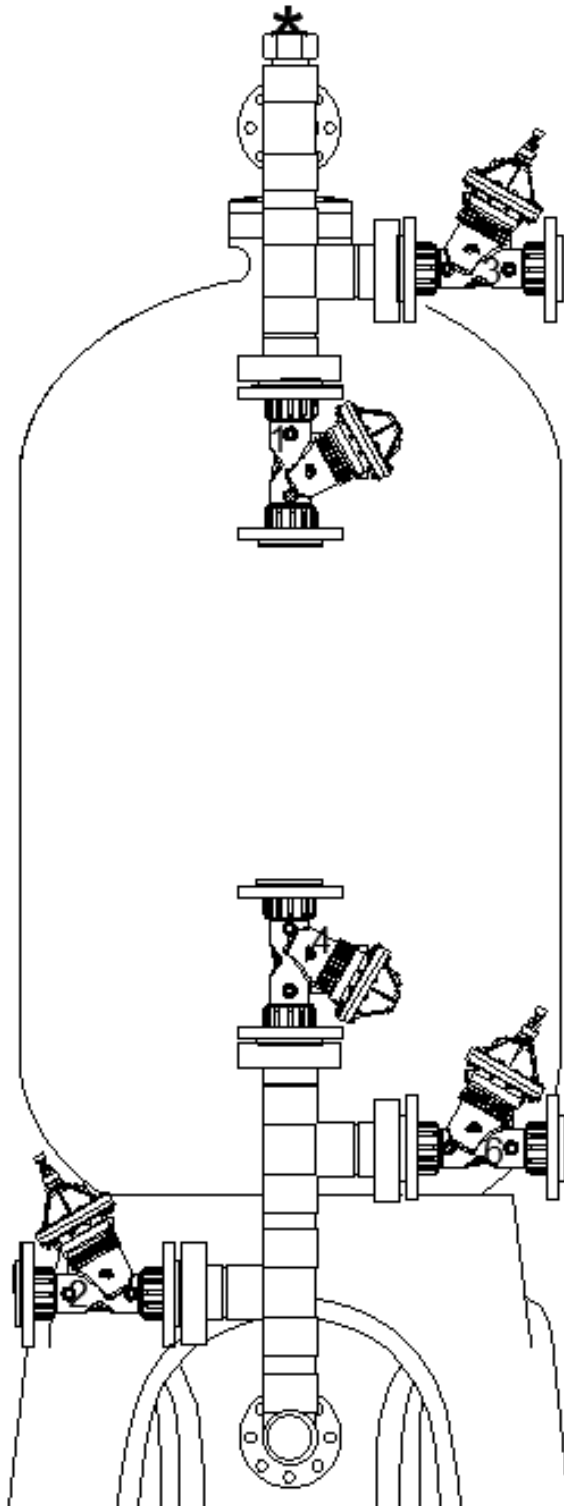

Fig. 3.3.1
-Figure 3.3.1 shown shows the typical single filter unit. The filter is shown with the standard supplied manifold. All additional piping is not included.